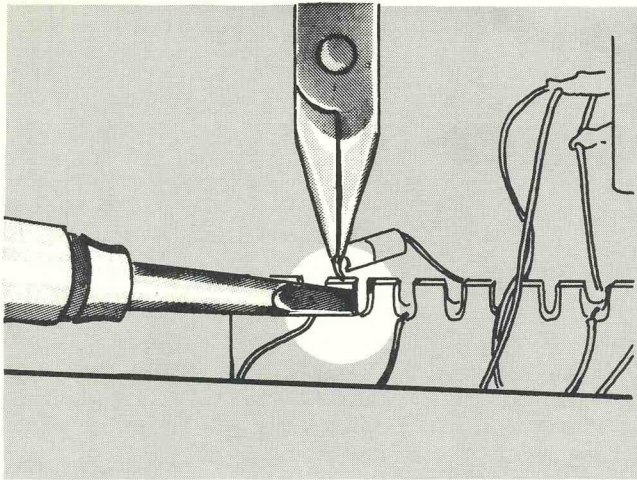

Fig. 4-2. Correct method of applying heat when unsoldering or soldering to a ceramic strip.
3. Apply one corner of the tip to the notch where you intend to unsolder the lead (see Fig. 4-2).